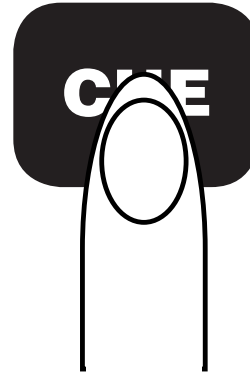

Fig. 11
- 2) Press the **CUE** button during playback to return to the position at which playback started (Figure 11).